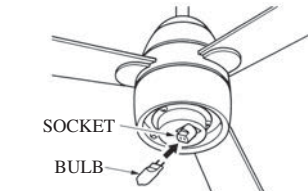

FIG.18
4. Plug the G9 Bulb into the socket (see Fig.18)